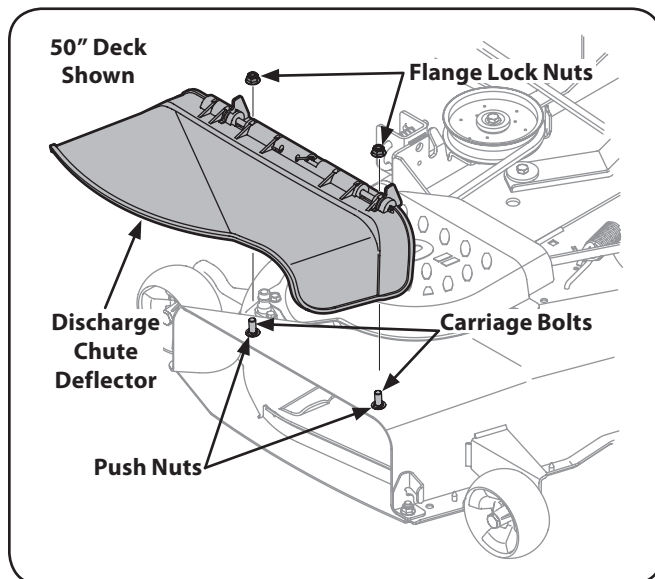

Figure 3-6
3. Install the discharge chute deflector using the carriage bolts, push nuts and flange lock nuts as shown in Figure 3-6 and securely tighten the hardware.